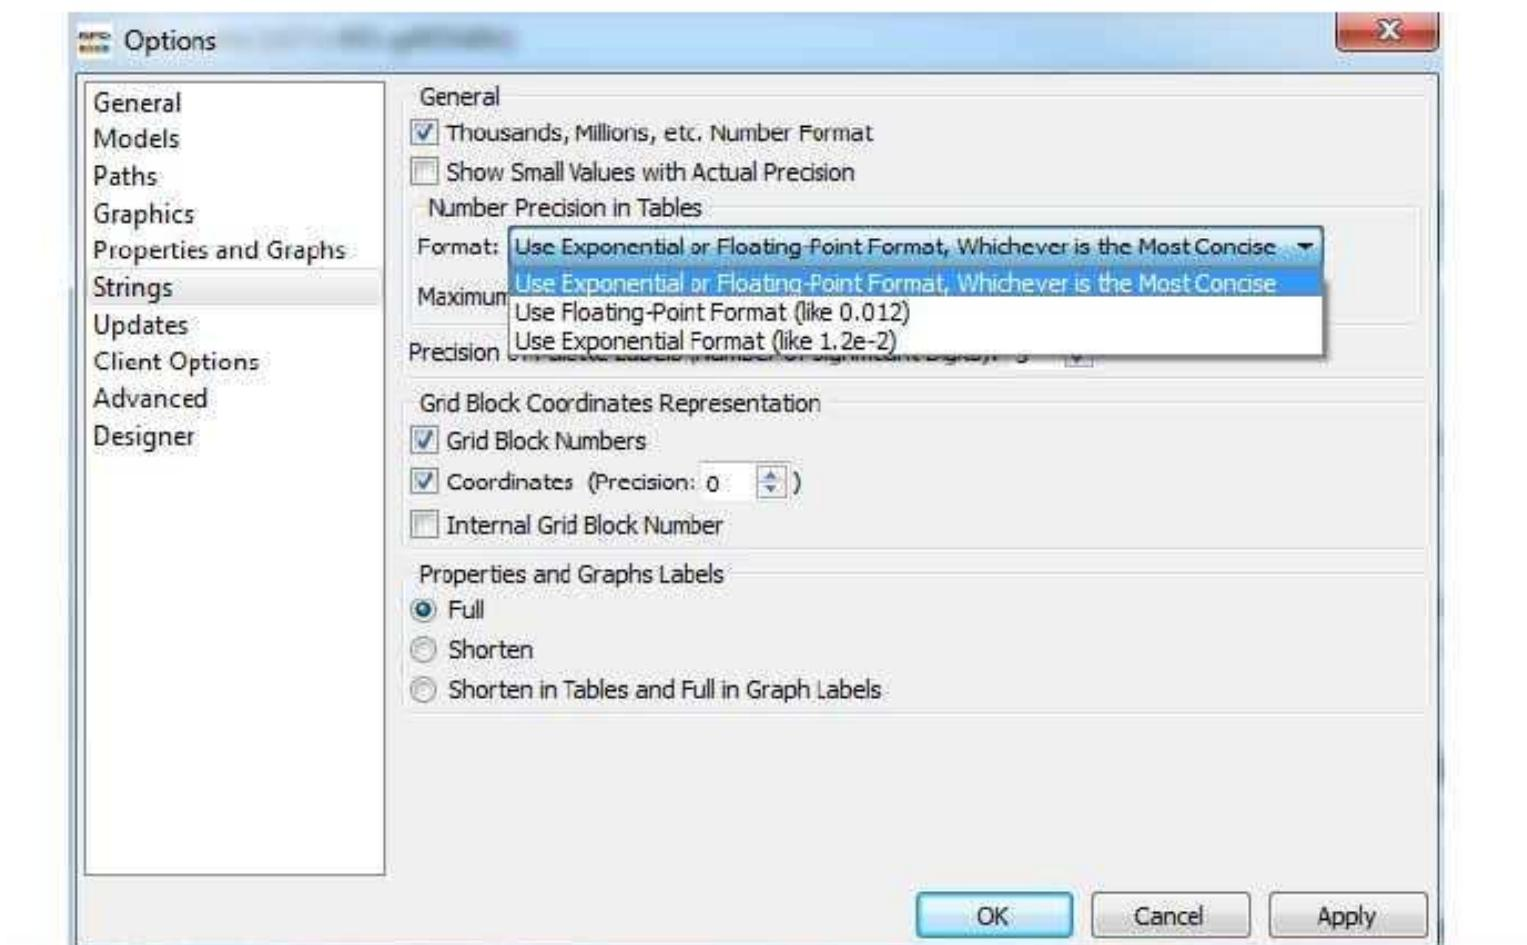

Figure 238. Format number in tables.
- **Number Precision in Tables: Format** (floating-point format, for example 0,012, or exponential format – 1,2e-2) (see figure 238), **Maximum number of significant digits** (default – 6);